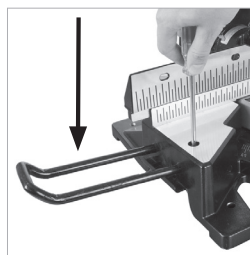

Fig. 44b
- Tighten the retaining screw. (Fig. 44b)